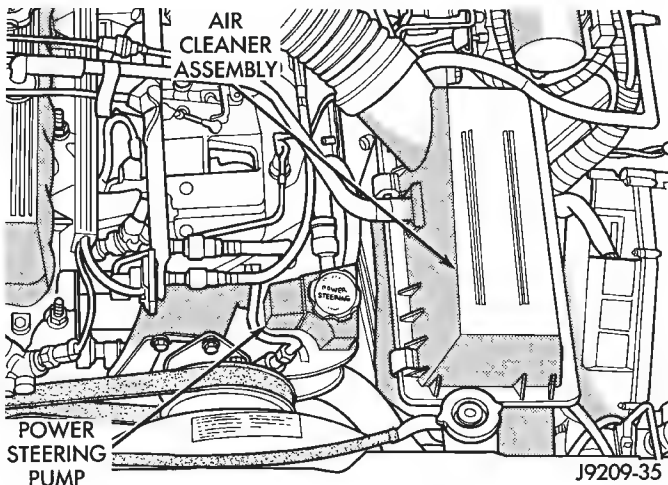

Fig. 16 Air Cleaner Assembly & Power Steering Pump
(21) Remove the fuel line bracket from the intake manifold.
(22) Remove the air cleaner assembly (Fig. 16).
(23) Remove the power brake vacuum check valve from the booster, if equipped.
(24) If equipped with power steering (Fig. 16):